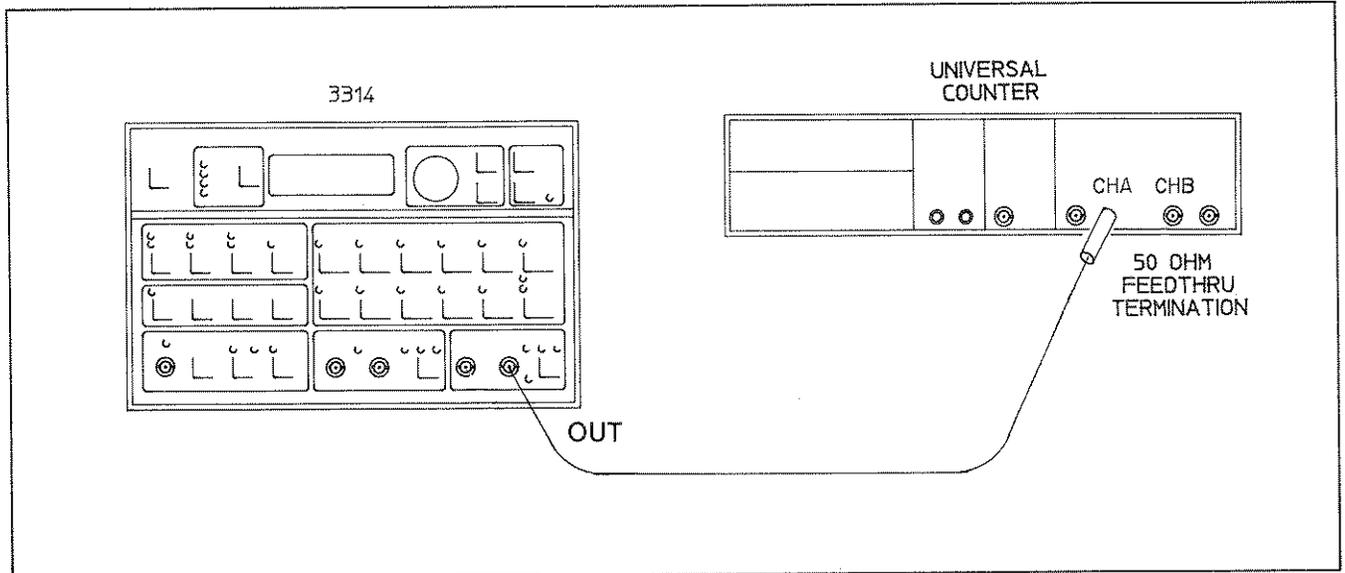

Figure 4-2. Time Axis and Variable Symmetry
D. Connect the 3314A to the Counter as shown in Figure 4-2.